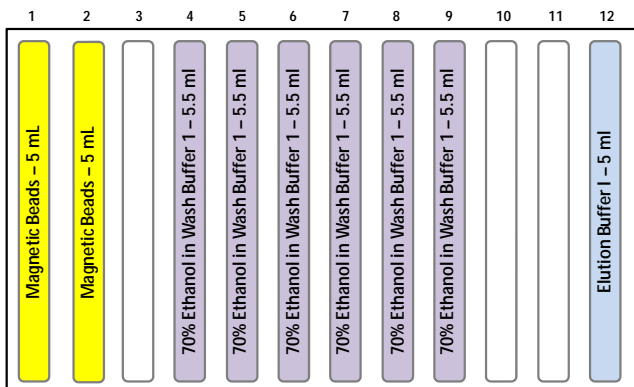

Figure 6. Magnetic Beads and Buffers for Purification.
2. Thoroughly shake the bottle with magnetic beads. Pipette 5 ml into columns 1 & 2 of the V-Groove Reservoir (Figure 6).